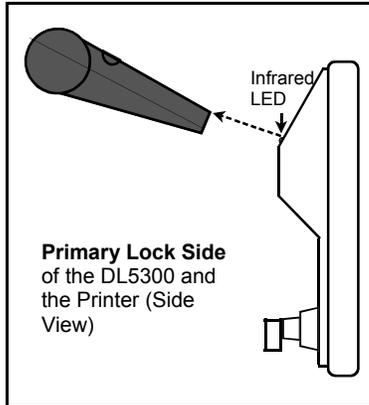
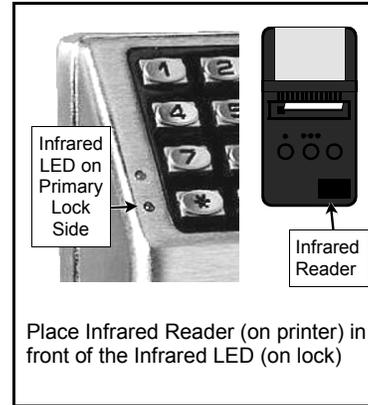

Figure 1
Figure 2
Hold the printer perpendicular to the **Primary Lock side** infrared LED as shown in Figure 1 and Figure 2. If the printer has been idle for some time, press the paper feed button to wake up the printer. The infrared LED is the lower LED as shown.
Hold the printer over the lock's infrared sensor as shown in Figure 1 and Figure 2 above. Twenty (20) events will print at a time; press 1 for more events, or 9 to quit. To abort printing, press any key for 3 seconds (three short beeps will sound). **1**
Hold the printer over the lock's infrared sensor as shown in Figure 1 and Figure 2 above. To abort printing, press any key for 3 seconds (three short beeps will sound). **3**
Hold the printer over the lock's infrared sensor as shown in Figure 1 and Figure 2 above. **1**